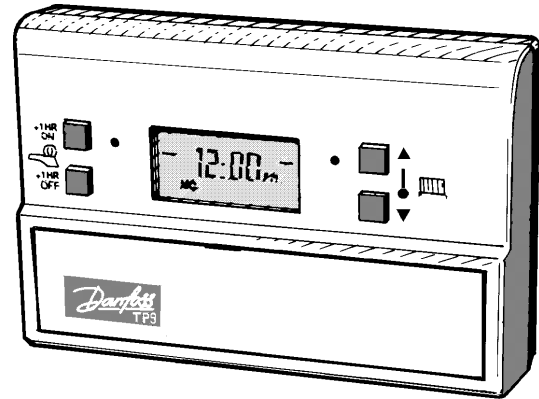

Fig. 1.
Reset the unit by pressing and holding down the four buttons; TEMPERATURE up (▲) and down (▼), minus (-) and plus (+) all at the same time, for at least two seconds, until the display becomes completely blank. Release the buttons, and the unit will begin automatically with the display similar to Fig. 1. i.e. 12:00PM with the colon blinking, 16°C, and the day (MO) shown if the unit is set for 5/2 day operation.